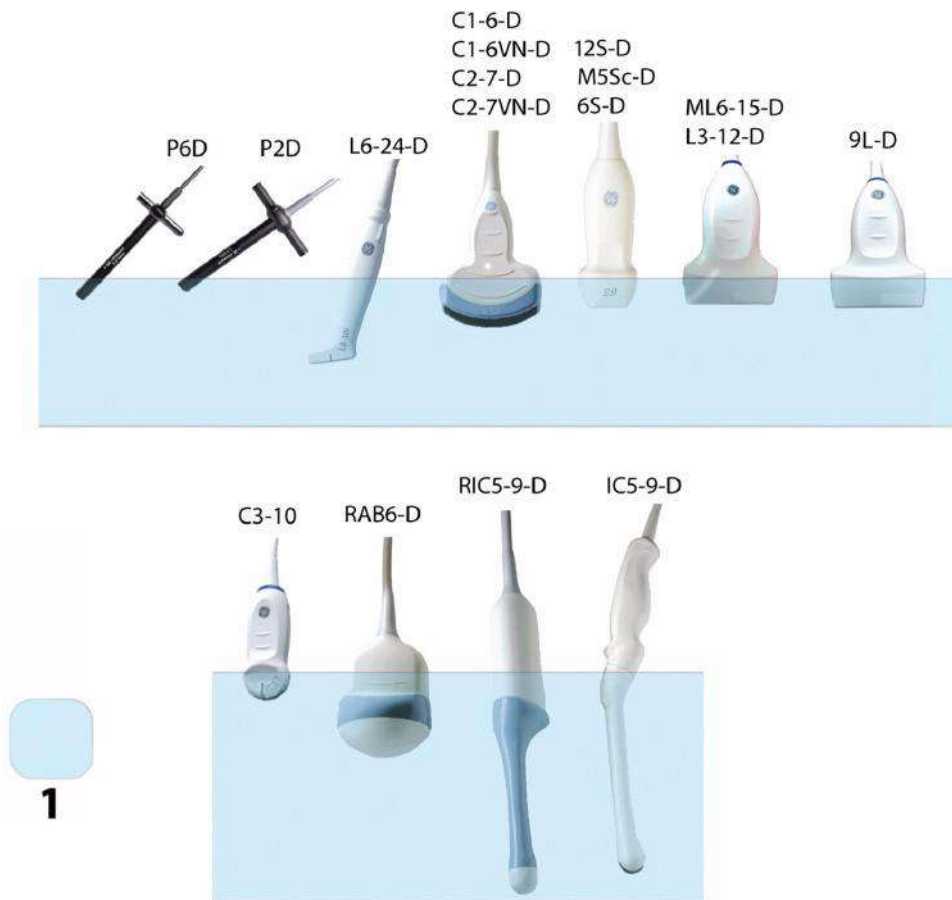

Figure 11-11. Probe Immersion Levels, 1 = Fluid Level
1. Ensure the probe has been disconnected from the console. Replace gloves and fill a sink or basin with High-Level Disinfectant diluted in accordance with the disinfectant manufacturers instructions to a level allowing immersion of the probe up to immersion line shown in Figure 11-11 *on page 11-31*.